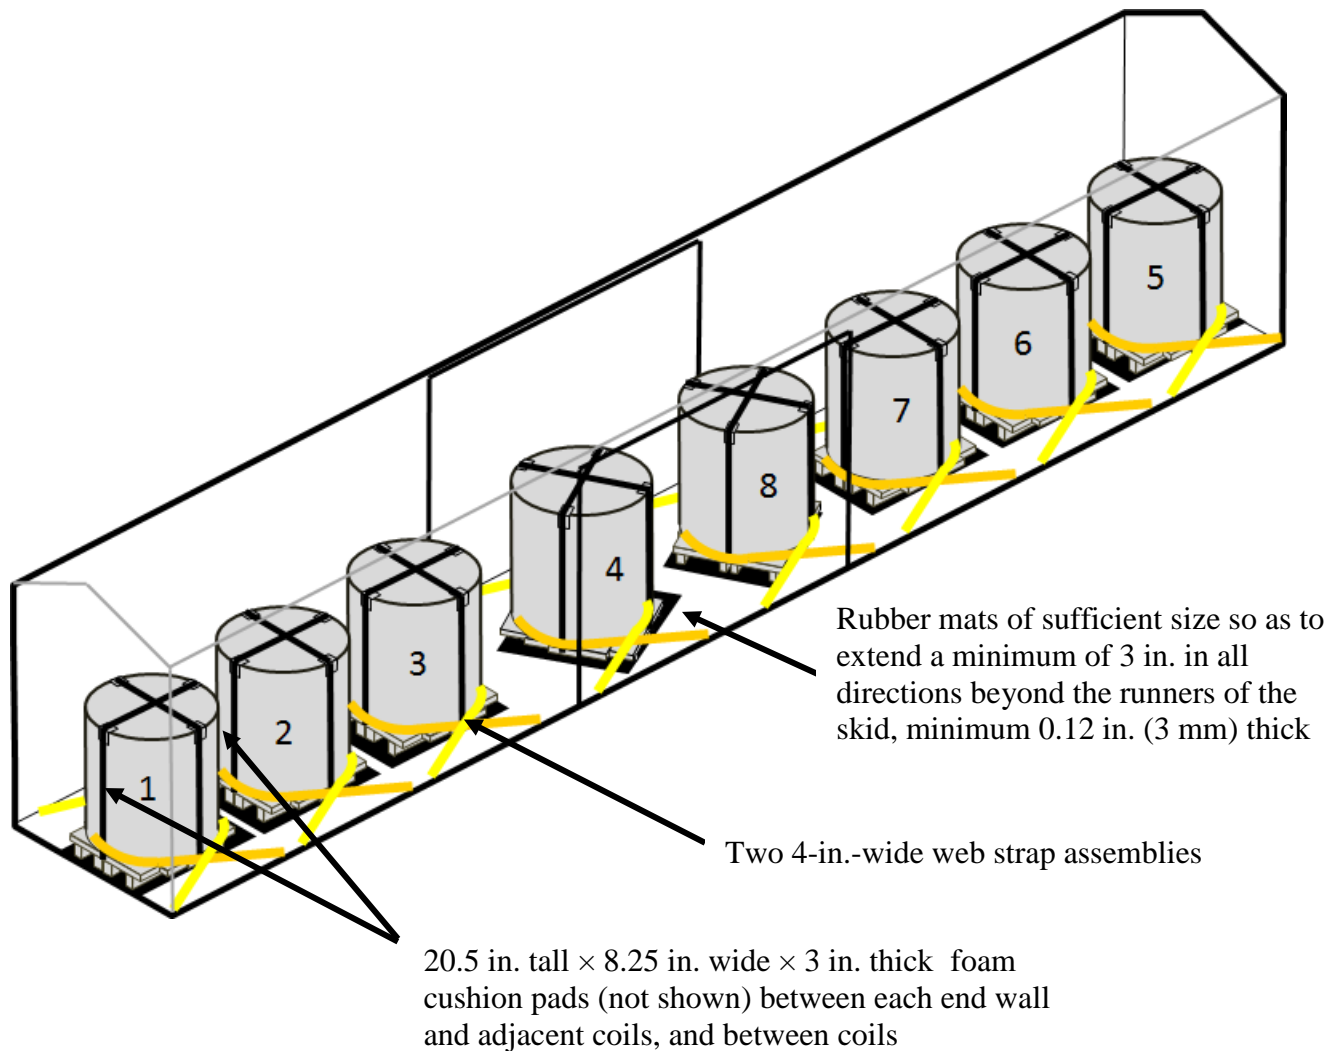

Figure 8.7
8.6.8 Anchor each coil using two 4-in.-wide web strap assemblies. Place two strap assemblies around the front and rear of each coil at the base of the coil. Anchor web straps into the floor by inserting B-hooks into the anchor plates. Use web strap assemblies (strap, ratchets, and related hardware) with a minimum breaking strength of 18,000 lb. Tensioning ratchets are located near the sidewall. Ensure that straps are straight and not twisted before tensioning. Once tensioned, ensure B-hook is fully engaged in the slot in the anchor plate. See Figure 8.7.